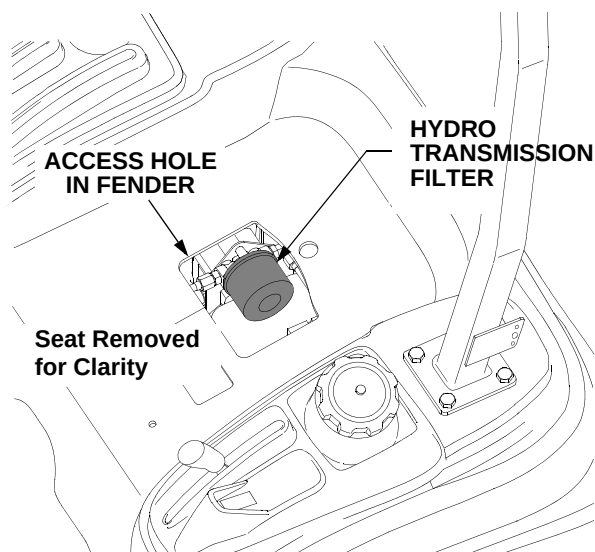

Figure 39
- Through the access hole in the rear fender, clean the area around the hydro transmission oil filter to prevent debris from entering the hydraulic system. Refer to Figure 39.
- Stuff shop rags underneath the hydro transmission filter to absorb any lost oil when the filter is removed. Refer to Figure 39.